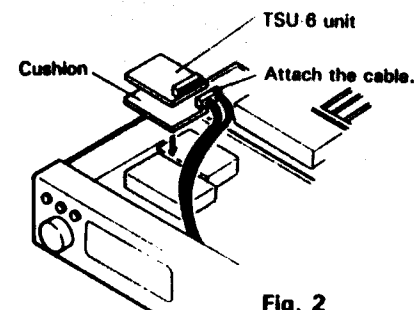

Fig. 2
3. Remove the backing from the small cushion provided with the TSU-6 and attach it to the back of the TSU-6 as shown in Fig. 2.
4. Attach the cable to the TSU-6 as shown in Fig. 2.